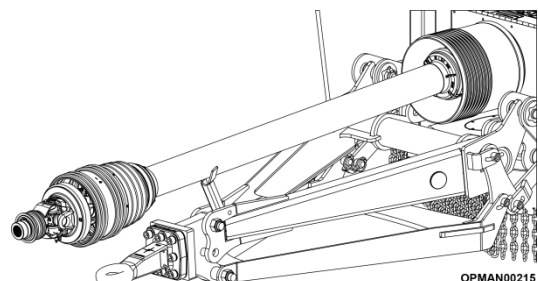

Figure 4.15 – PTO Support Bracket
- 4.5.1.7 If the shaft is not destined to be removed completely, utilise the machines PTO support bracket to rest the PTO shaft on; see Figure 4.15. This will ensure that the shaft doesn't get contaminated with dirt.